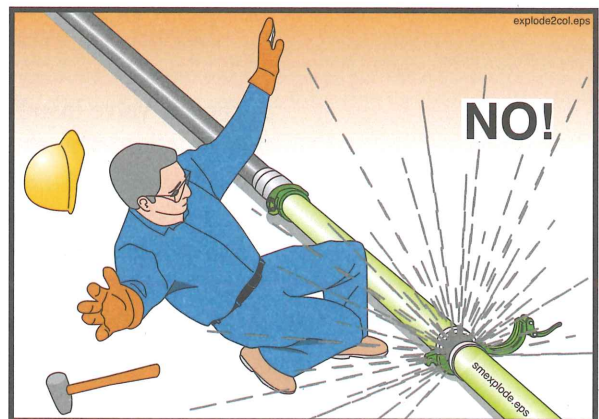

Figure 32
- **The pipeline must not be disassembled until it has been completely relieved of air.** Be sure of this! (See Figure 32.)